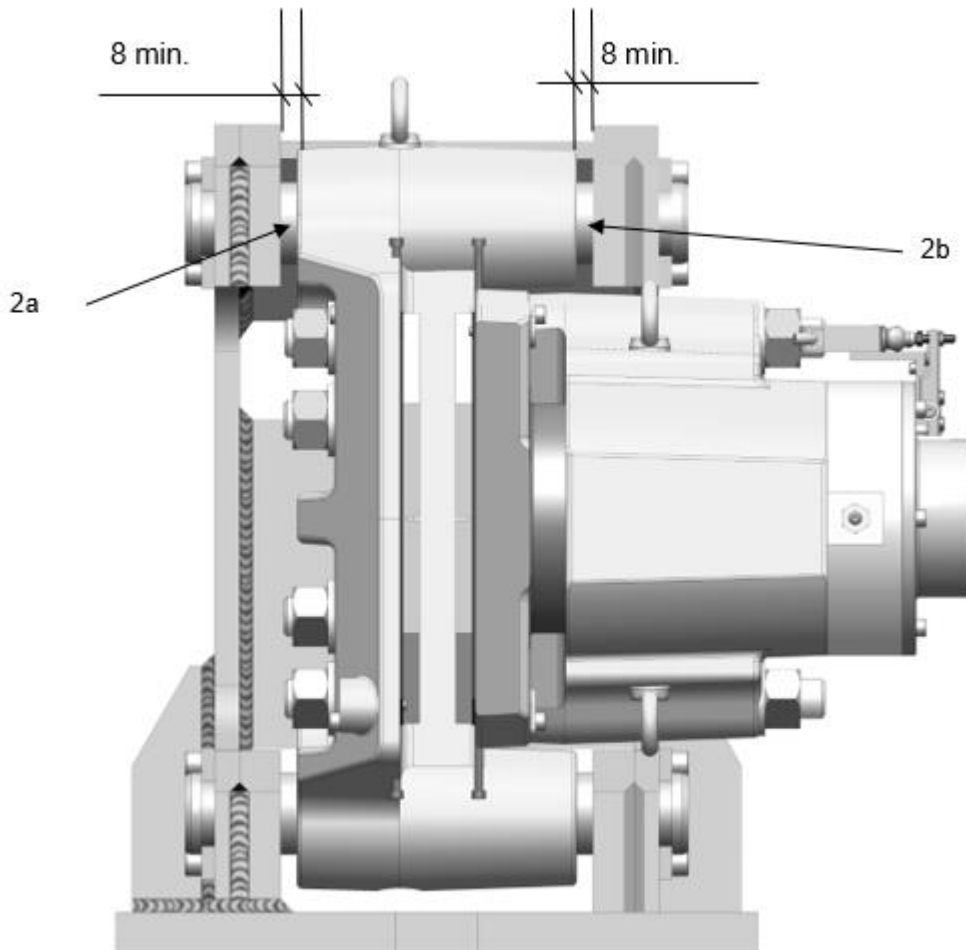

Fig. 2.3
2. Brake HS 145 FHM-270 H the disc position 8mm min. fixed pad side 2a; 8 mm min. from the other side 2b can be adjust. Fig. 2.3.